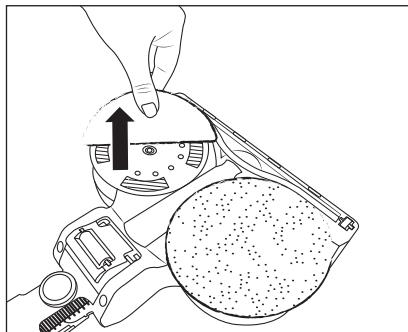

Fig. 18
- ◆ To remove a mop pad 34 from the mop attachment 31, grip it with your fingers and pull it upwards off the mop attachment 31 (see Fig. 18).